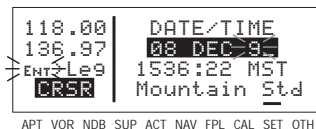

Figure 4-188
5. Move the flashing part of the cursor to the tens digit of the year field, and select the proper number (figure 4-188).